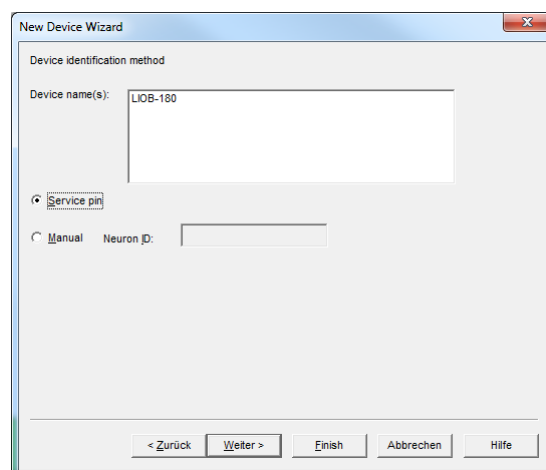

Figure 97: Use Service Pin
6. Check Service Pin as the device identification method as shown in Figure 97 and click **Next**.